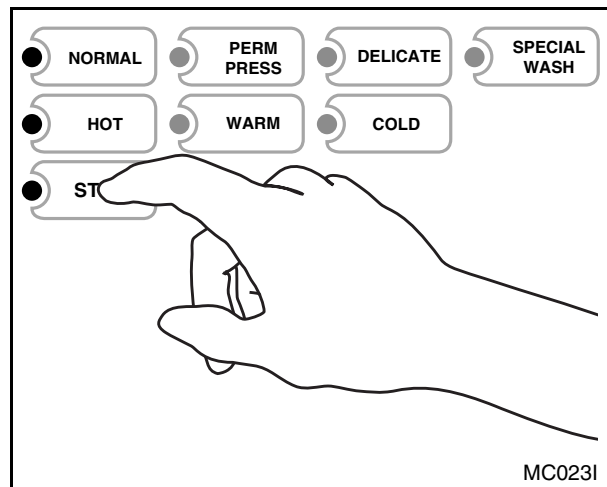

Figure 2-5
5. Press the **START** pad. See Figure 2-5.